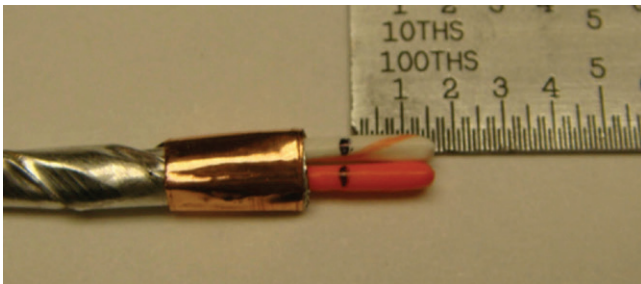

Figure 15: Marking each pair
- Mark each pair 0.15 inch from the end of the cable (Figure 15).